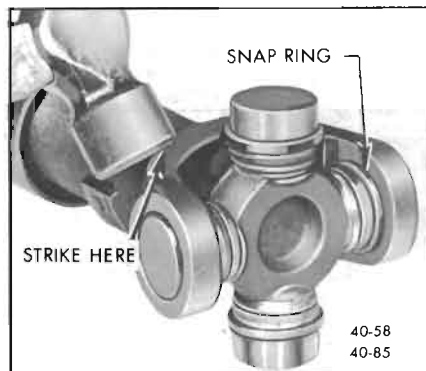

Figure 40-58—Seating U-Joint Snap Rings
4. Strike the yoke with a hammer to fully seat the snap rings against the yoke. Turn the spider to make certain that it is free. See Figure 40-58.